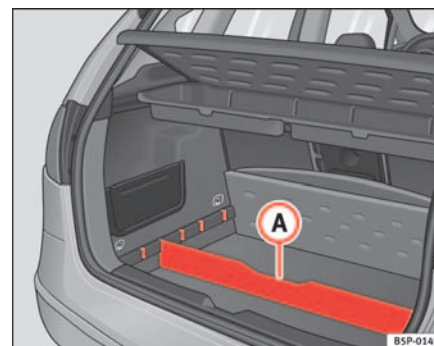

Fig. 105 Luggage compartment divider
- Fit the separator **A** ⇒ page 133, fig. 105, into the side grooves depending on the size of the objects to be transported. The onboard tool kit and the spare wheel are located underneath the luggage compartment.